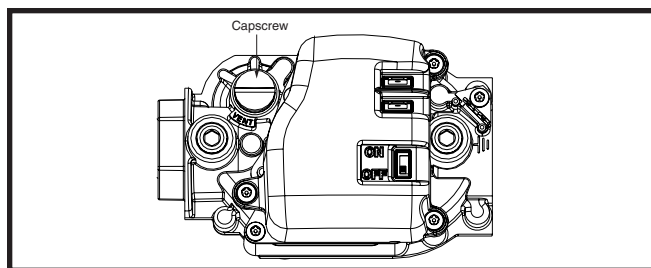

Figure 20. Regulator Capscrew
- The thermostat must be installed according to the instructions supplied by the thermostat manufacturer. Low voltage connections (24 VAC) from the thermostat are wired to the terminal strip on the integrated control in the furnace. Figure 20 \(page 21\) contains the proper connections for heating only (two-wire) and heating/cooling (four-wire) applications. Recommended minimum wire gauge for thermostat wiring is shown in Table 6 \(page 20\).
- ✓ Verify the thermostat wires are securely connected to the correct leads on the circuit board terminal strip for your specific air conditioning or heat pump application. See Figure 20 \(page 21\)